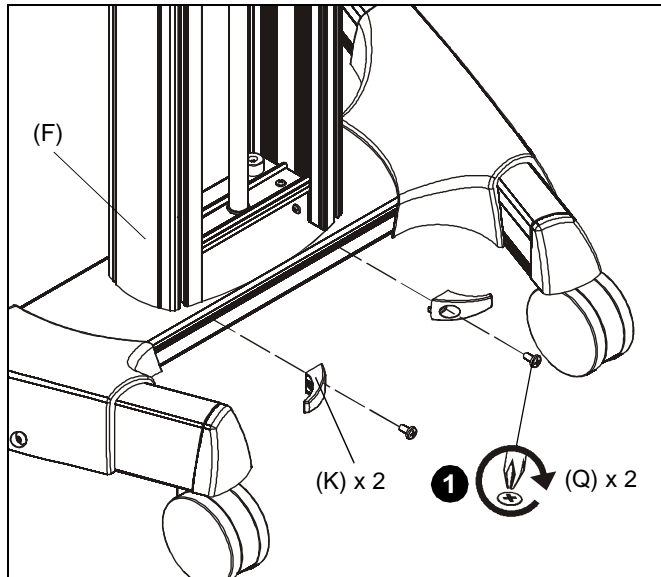

Figure 10
1. Use two 1/4-20 x 1/2" Phillips pan machine screws (Q) to attach two cable hooks (K) to bottom of column assembly (F). (See Figure 10)